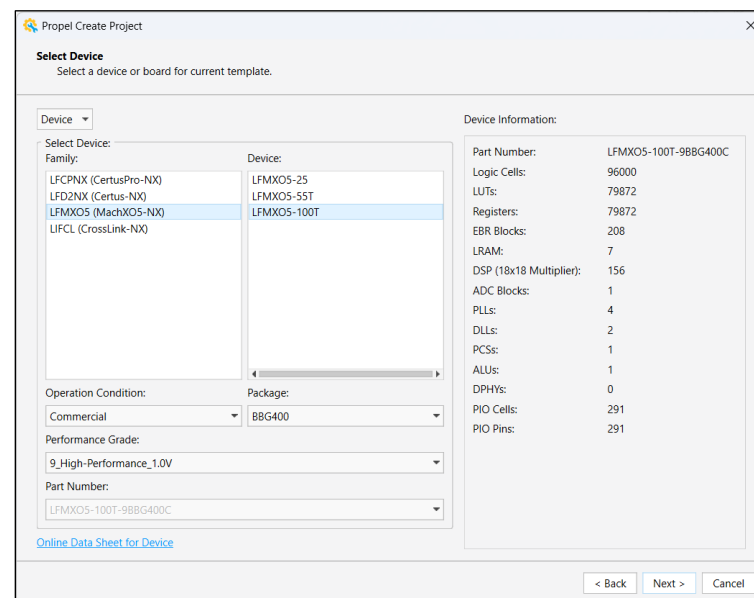

Figure 6.4. Create SoC Project — Device Select
- In the **Device Select** section, specify the correct details of the device or board that you are using. In Figure 6.4, the device is set to LFMXO5-100T-9BBG400C since the MachXO5-NX Evaluation Board is used in the hardware testing.